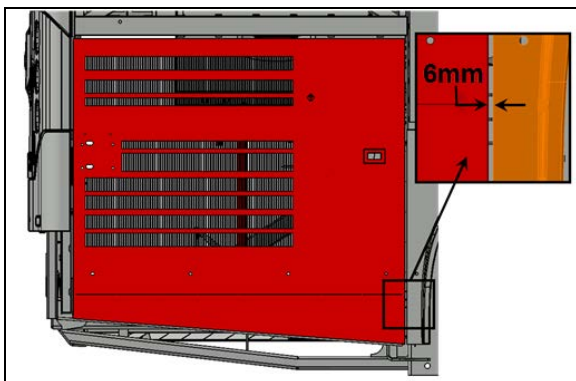

FIGURE 116
7. Check the gap between the door and the adjacent panel at the level of the lower attachment point of the arm on the door. The gap should be $1/4"$ (6 mm) (FIGURE 116).